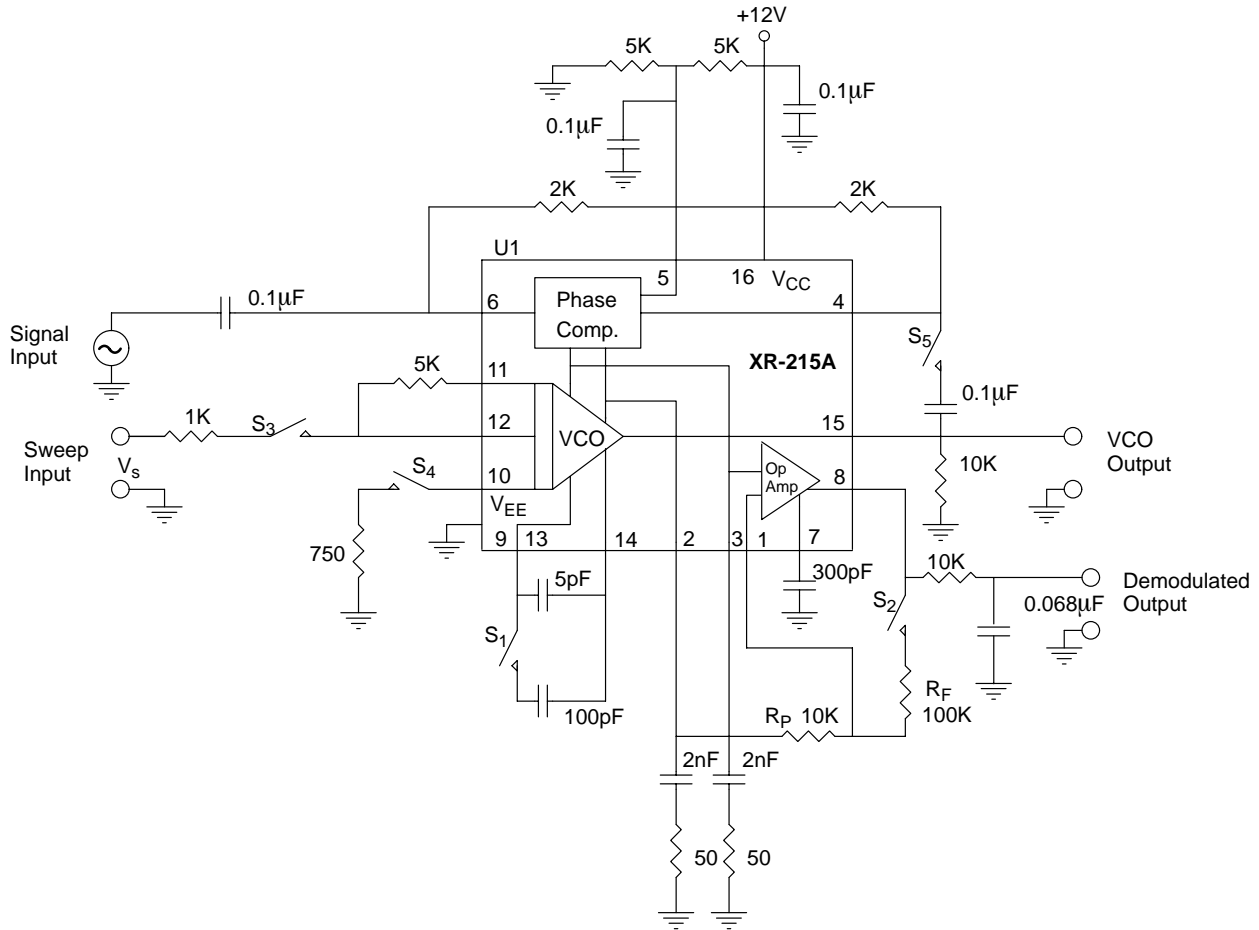
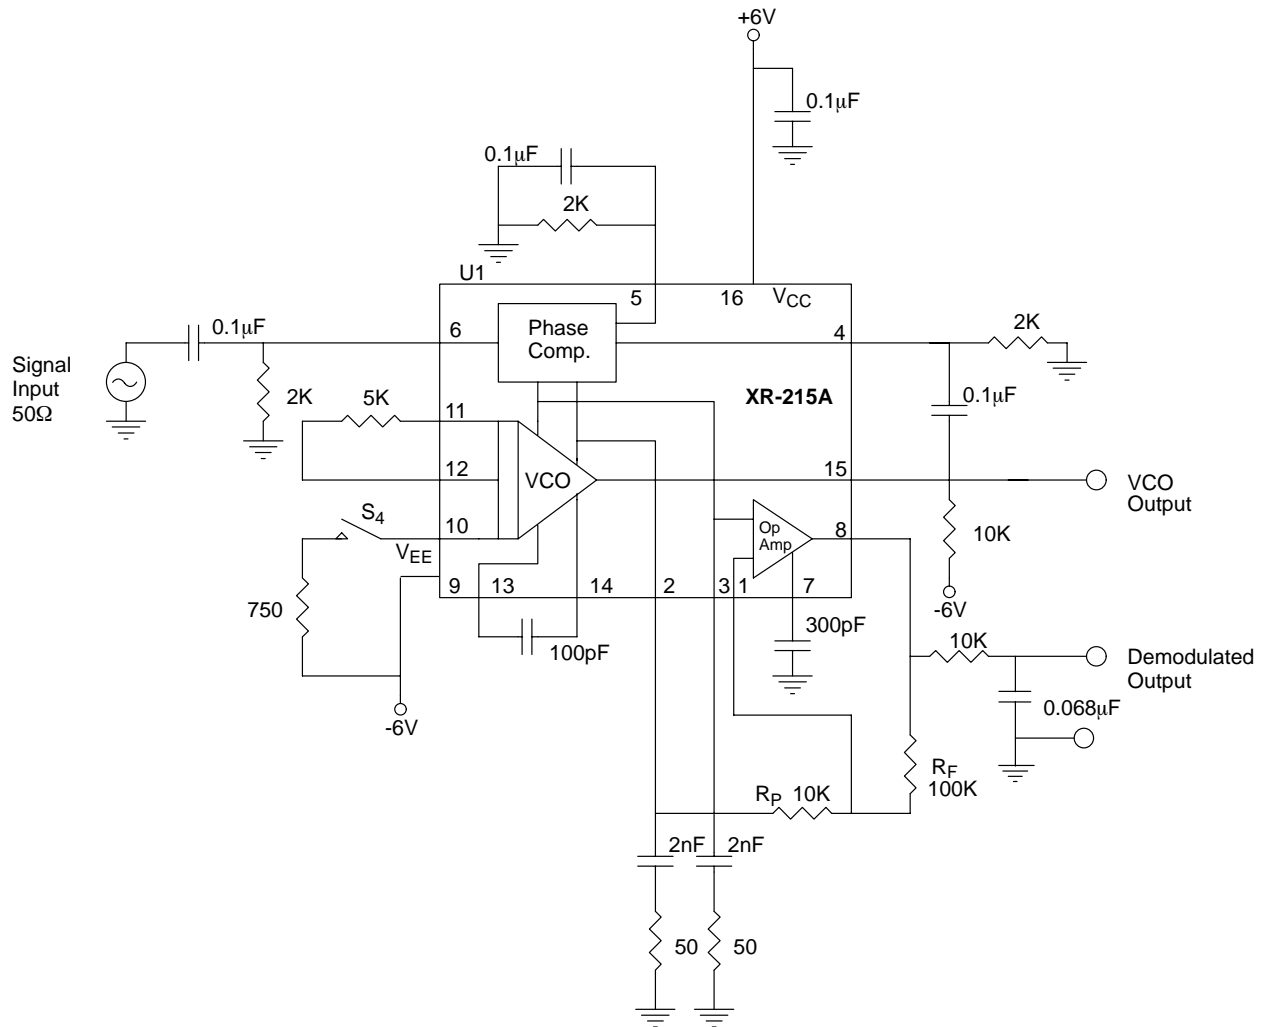

Figure 3. Test Circuit for Single Supply Operation
Figure 4. Test Circuit for Split-Supply Operation
**Test Conditions:**  $V_{CC} = 12V$  (single supply),  $T_A = 25^\circ C$ , Test Circuit of *Figure 3* with  $C_0 = 100\text{ pF}$ , (silver-mica)  $S_1, S_2, S_5$ , closed,  $S_3, S_4$  open unless otherwise specified.
VCO output (pin 15) to complete the PLL (see *Figure 3*). For split supply operation, these inputs are biased from ground as shown in *Figure 4*. For single supply operation, a resistive bias string similar to that shown in *Figure 3* should be used to set the bias level at approximately  $V_{CC}/2$ . The DC bias current at these terminals is nominally  $8\mu A$ .
This terminal should be DC biased as shown in *Figure 3* and *Figure 4*, and AC grounded with a bypass capacitor.
This pin provides the inverting input for the operational amplifier section. Normally it is connected to pin 2 through a 10  $k\Omega$  external resistor (see *Figure 3* or *Figure 4*.)
The voltage gain of the amplifier section is determined by feedback resistors  $R_F$  and  $R_p$  between pins (8,1) and (2,1) respectively. (See *Figure 3* and *Figure 4*.) It is given by: